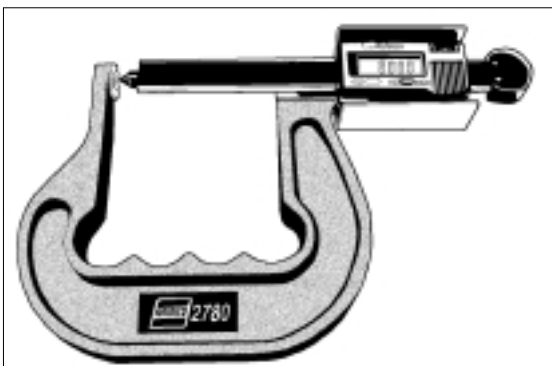

Figure 17 - Measure rotor thickness
2. Use a micrometer to check the thickness of the rotor (figure 17) at no less than 3 points around the circumference about 1" (2.54 mm) in from the outer diameter.